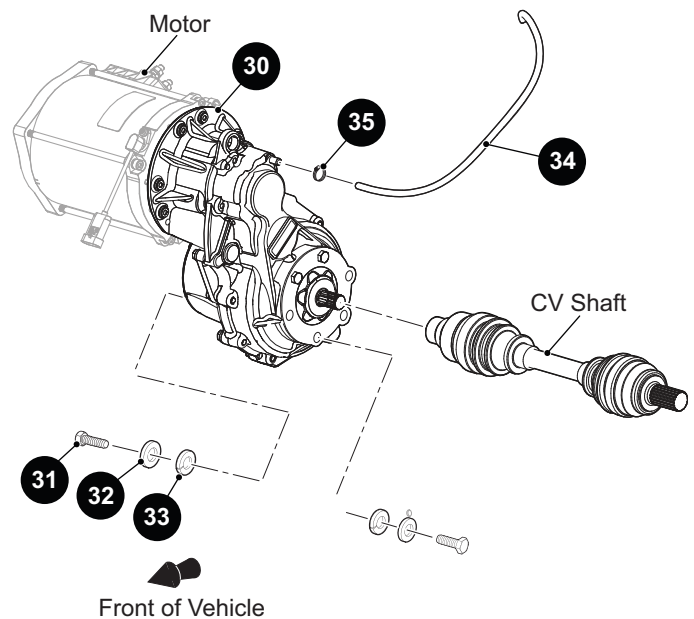

Fig. 8 Front Differential Replacement
5. Remove the breather hose (34) by removing the clamp (35) and set aside for reuse during installation.
6. Remove the eight bolts (31), lock washers (33) and flat washers (32).
7. Carefully lift the differential (30) from vehicle (Fig. 8).